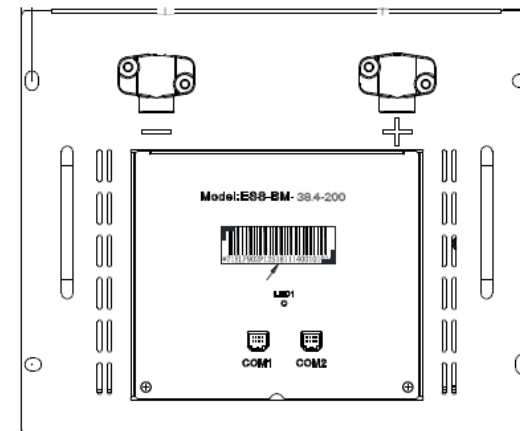

Figure 6-1 Diagram of the battery module label (picture is for reference only)
- 3) Determine the installation position of the battery module according to the label of the battery module (as shown in Figure 6-1, the 4 digits are the installation position of the battery module, 0101 indicates the first position of the first rack, and 0211 indicates the 11th position of the second rack).